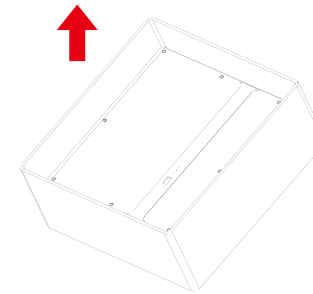

Figure 2.6 Remove SMILE-B3 Packaging
**Step 1** Take out SMILE-B3 from the packaging box, as shown in Figure 2.6